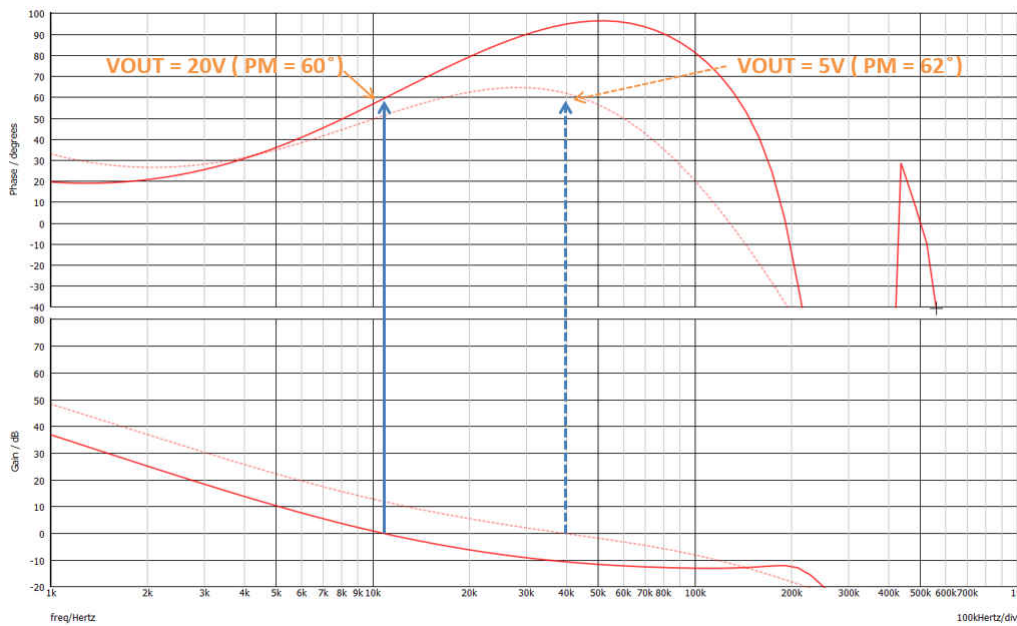

Figure 3-2. Feedback Resistor Switch Network Control Scheme Bode Plot
- For DC/DC step down buck converters utilizing a transconductance type error amplifier, the system is slightly difficult to properly compensate. This is because the lower feedback resistors directly impacts the gain of the system throughout the entire frequency range, which in turn impacts the crossover frequency of the system across different V_{OUT} points and consequently affects the phase margin of the system. Refer to Figure 3-2 for the simulated LM61460-Q1 small signal loop response for the lowest output voltage of 5 V and the highest output voltage of 20 V. Note that the gain loop crosses 0 dB for at different crossover frequencies for different V_{OUT} voltages and will have an impact on the system transient performance. Depending on the specific buck converter used, the output capacitance may need to be modified accordingly to create a stable design that is applicable across the entire V_{OUT} voltage range.